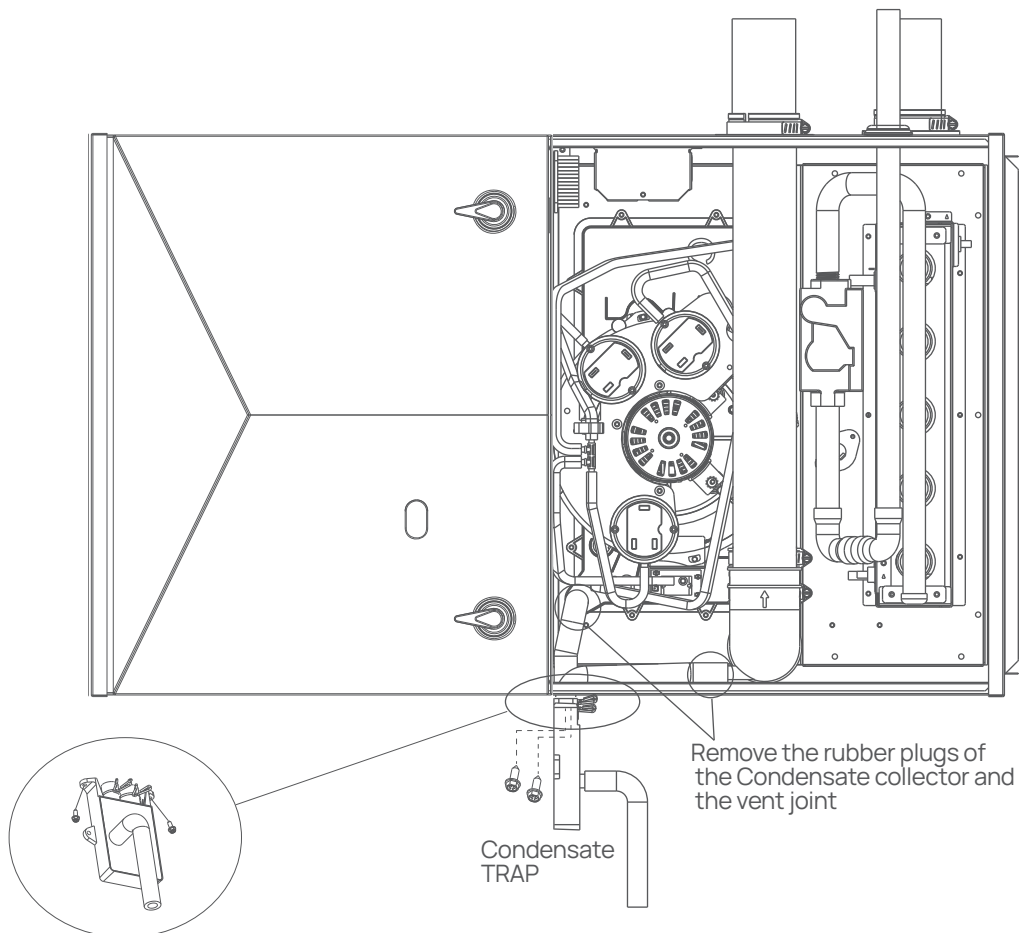

Fig. 37 Horizontal Right Side Installation
In Horizontal right side installing , the drainage line is discharged from the right side, and the condensate TRAP needs to be installed on the right side panel, as shown in Fig.37;
- ② Remove the rubber plugs on rubber plugs of the Condensate collector and the vent joint; see Fig.37
- ③ Cut out drainage pipes of appropriate length (with 2 diameters, connecting the drainage outlet of the collection box and the drainage outlet of the inducer joint), pass them through the drainage holes on the side panel, connect them to the corresponding inlet of the Condensate TRAP, and tighten them with the clamps provided by the factory accessories.
- ④ Align the two inlets of the Condensate TRAP with the drainage outlet of the side panel, and fix them on the side panel with the two self supplied screws provided by the factory accessories; See Figure 37
- ⑤ Connect the other end of the drainage pipes to the drainage outlet of the water collection box and the drainage outlet of the vent pipe, which have already removed the rubber plug, and clamp the hose head with a clamp provided by the factory accessory;